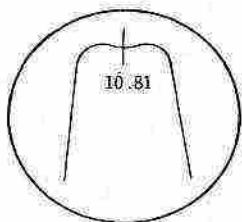

Figure 9
(1) First IF Amplifier
- Set the frequency of the sweep generator to 10.81 MHz, and apply its output. Adjust T_{101} until the scope pattern shown in Fig. 9 is available.